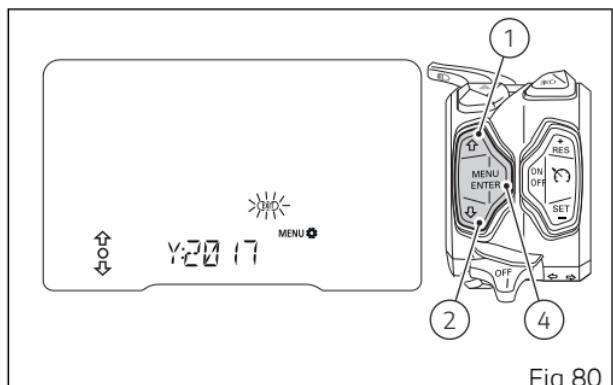

Fig 80
When entering this function, the instrument panel will display the current year within the Menu, as well as the EXIT item selected with flashing frame (Fig 80). Press button (4) to go back to the main screen of the SETTING MENU.